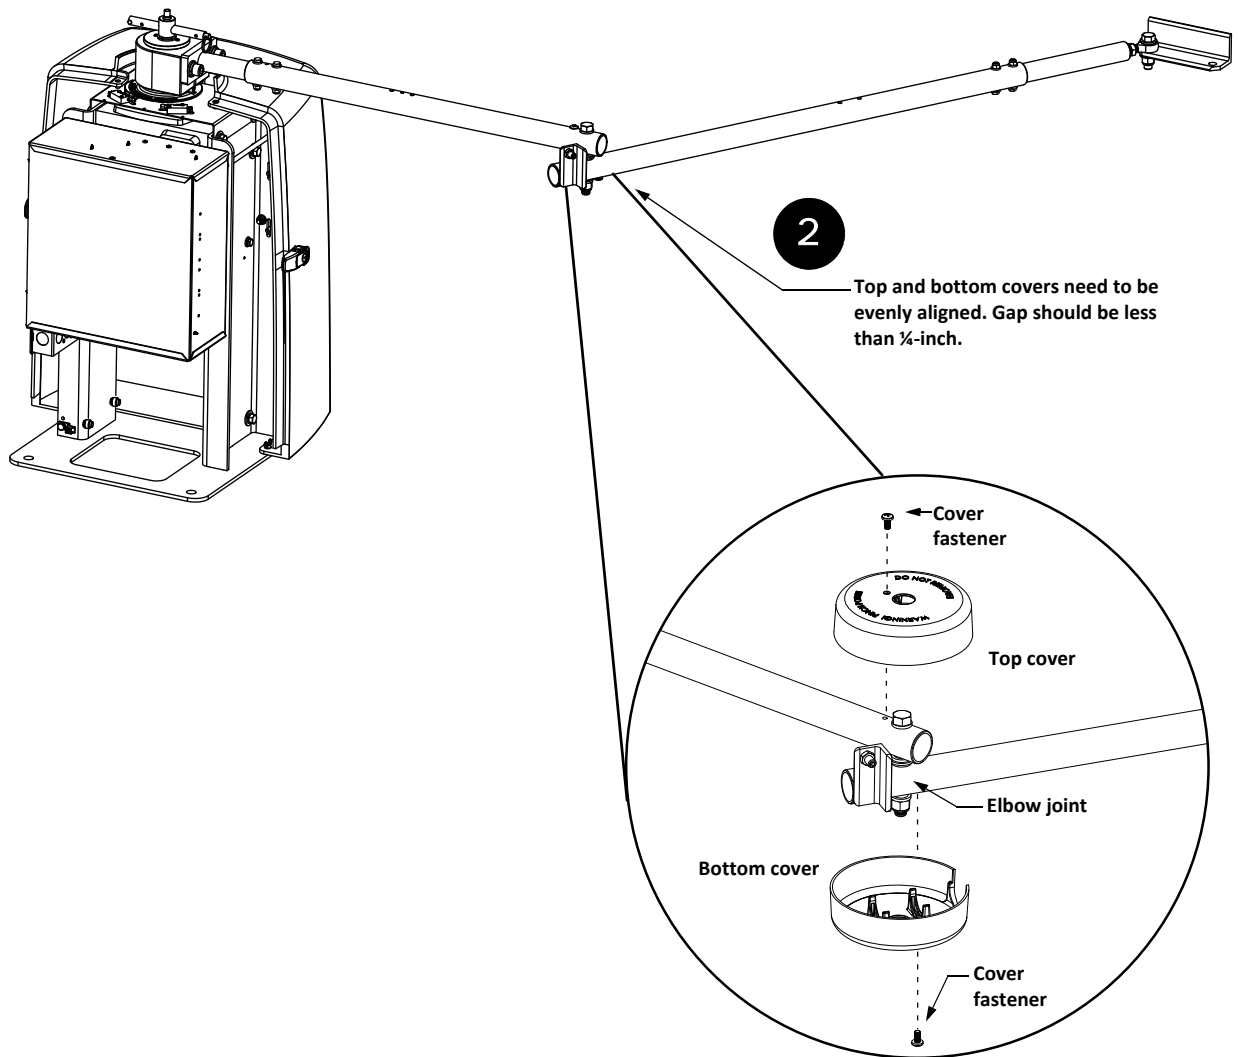

Figure 1-15.
5. Make sure the gap between the top and bottom covers is evenly aligned. See Figure 1-15.